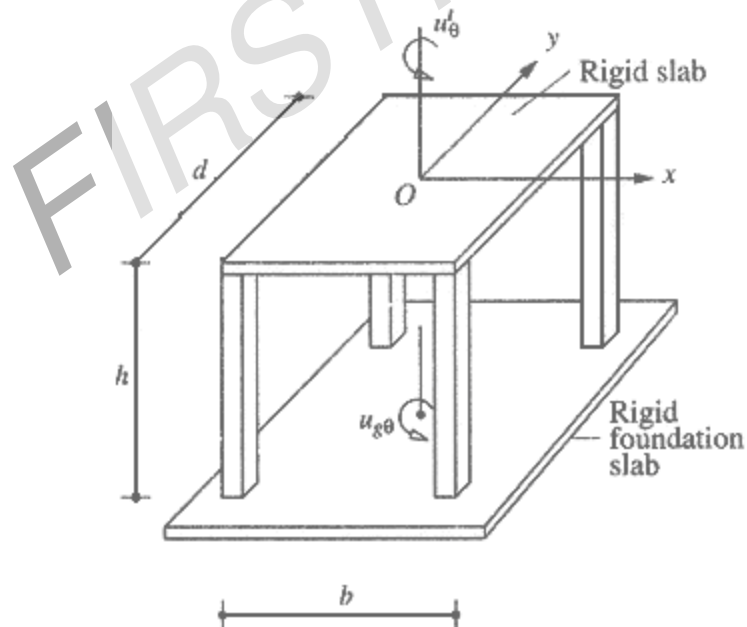

Figure 2:
8. A uniform rigid slab of total mass m is supported on four columns of height h rigidly connected to the top slab and to the foundation slab. Each column has a rectangular cross section with second moments of area I_x and I_y for bending about the x and y axes respectively as shown in figure 2. Determine the equation of motion for this system subjected to rotation $u_{g\theta}$ of the foundation about a vertical axis. Neglect the mass of the columns. [16]